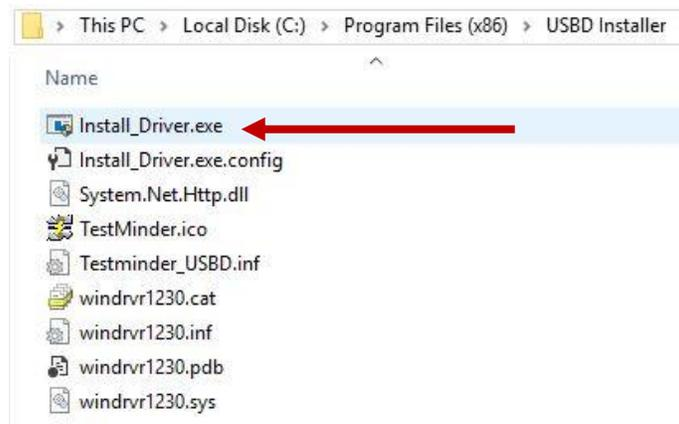

Figure 20 Driver installer folder contents
5. After the setup driver installation finishes, open a file explorer window and go to the location mentioned in **step 12**, normally it would be under “C:\Program Files(x86)\USB_D_Installer. Look for the file named “Install_driver.exe and right click on it then choose “Run as Administrator” (Figure 20).